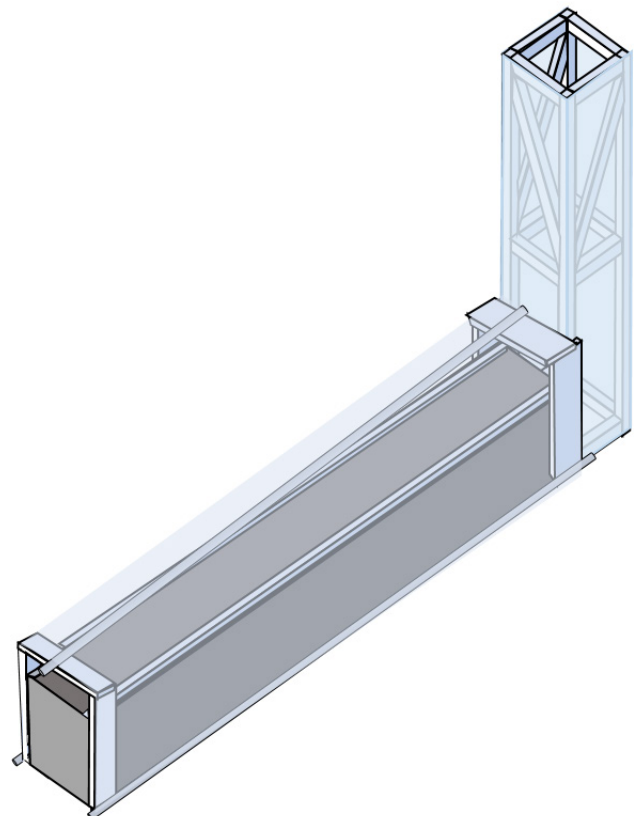

Figure 6. Clear plastic wrapped around the table
- Position the 4 m wood or bamboo center pole on support shelves just above the top trays to hold the plastic above the product (Fig. 6).